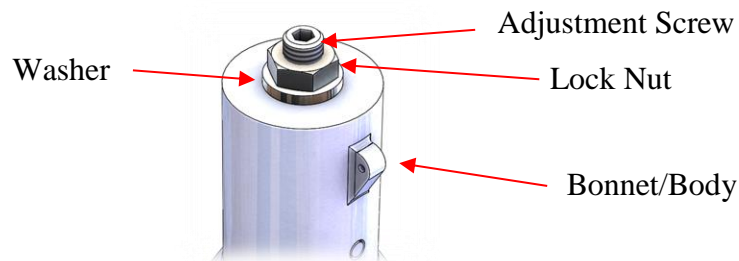

Figure 12: 1” Body Upper Bonnet Components
2. Loosen the lock nut from the adjustment screw. See Figure 12.